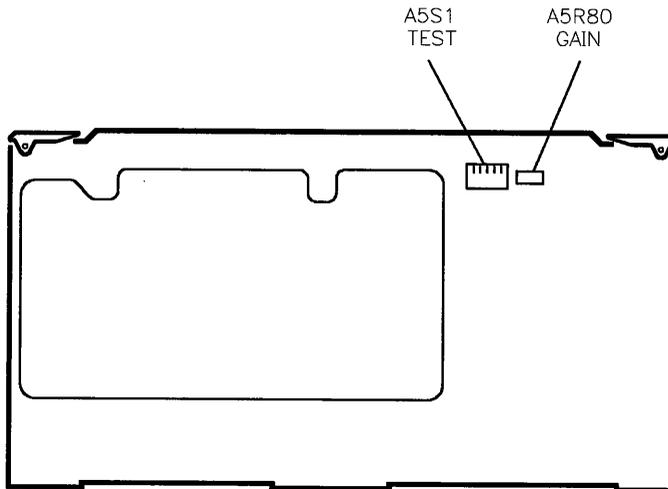

Figure 3-13. Switch and Adjustment Locations
(See Figure 3-13.)
5. Adjust A5R80 (see Figure 3-13) to center the “needle” on the display.